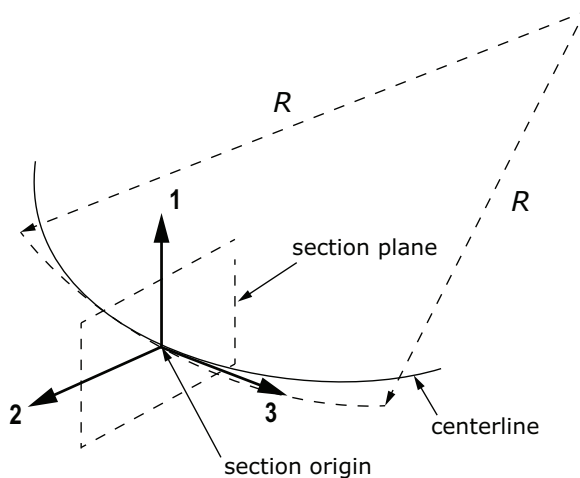

Figure 1: Precurvature.
1. Precurvature of the beam centerline in the plane perpendicular to the 1-axis of the cross-section (reciprocal of the osculating circle radius of the centerline projection onto that plane). (See Figure 1.) The default is 0.0.